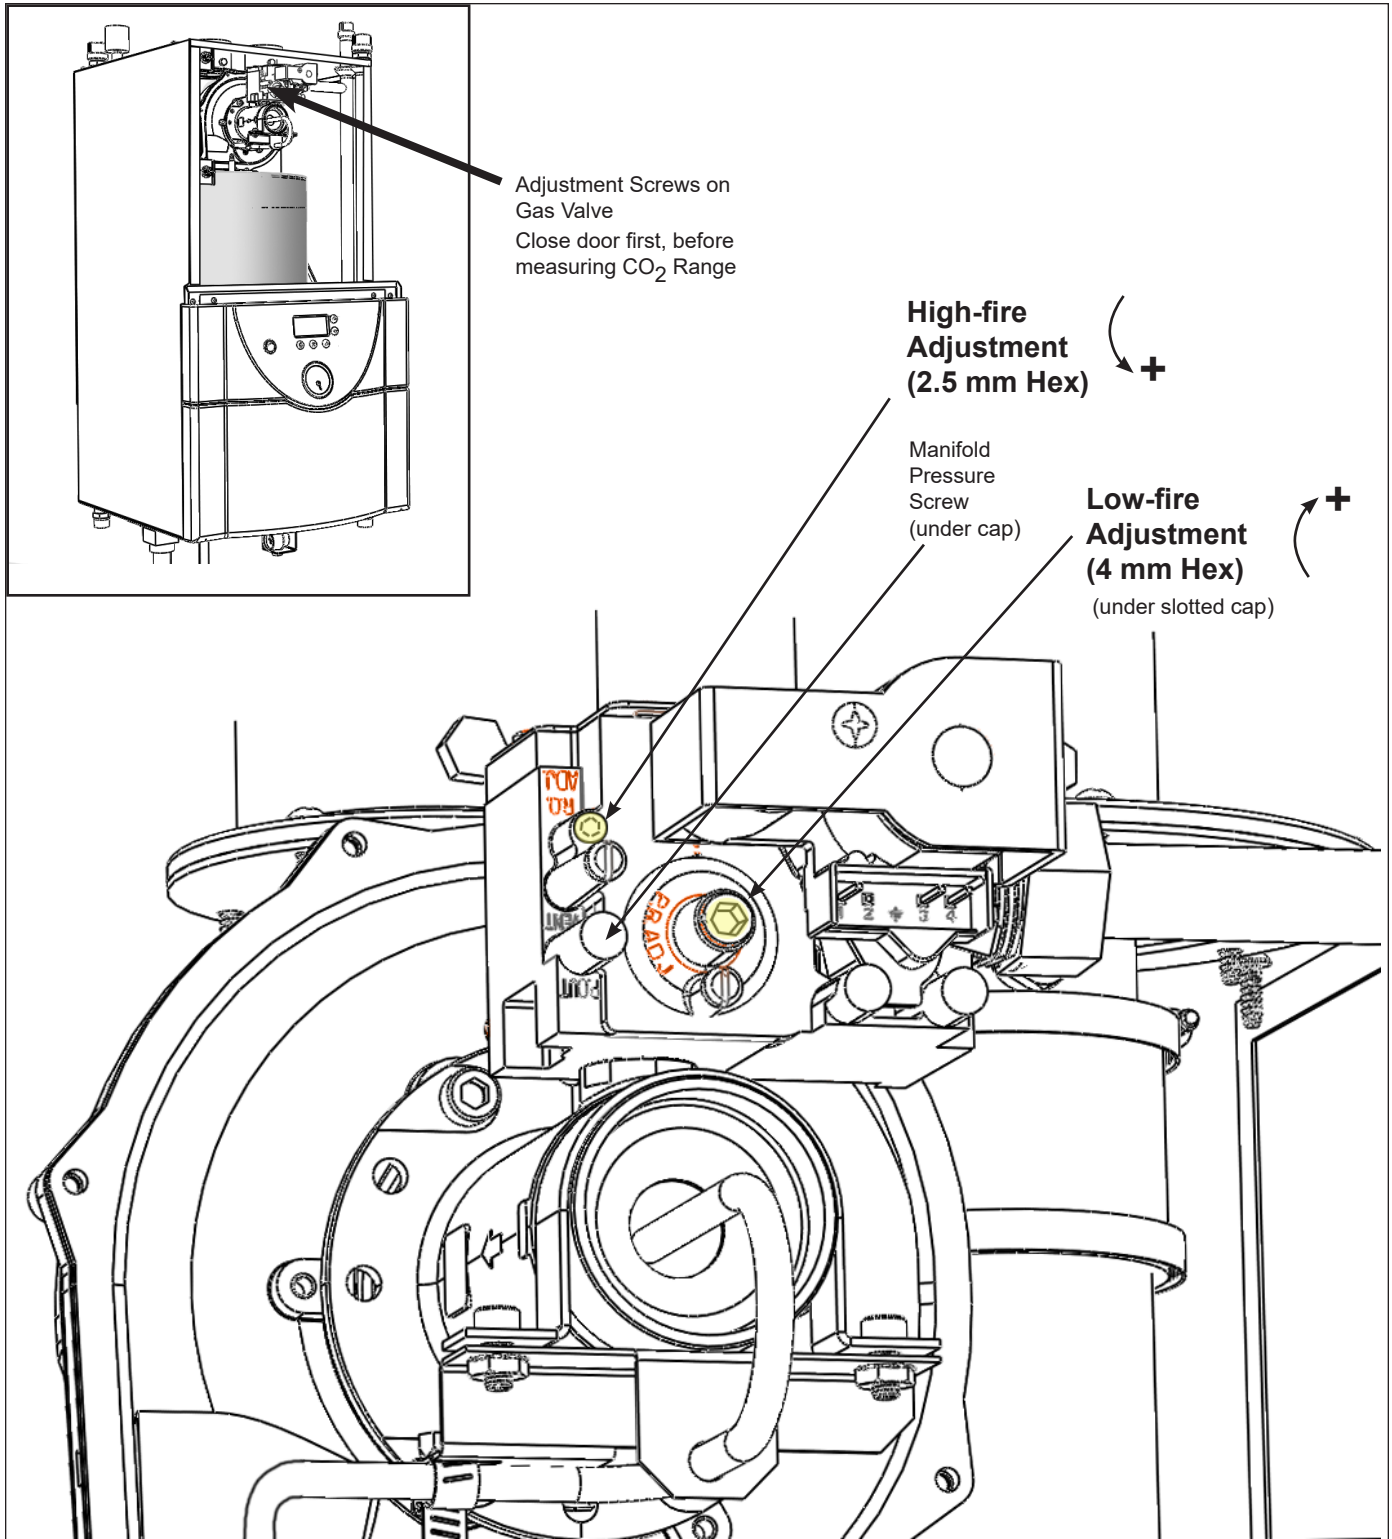

Figure 28. Adjustment Screws and Settings for CO₂
1. Measure the CO₂ in the flue products at high fire. The Brute LX can be forced to high fire to allow for easier setup. Refer to **Section 8** for instructions on how to access the forced rate menu. The CO₂ readings should be between the range shown in **Table 17**. If the CO₂ is not within the range shown, adjustments may be made. To adjust the high fire CO₂, locate the high fire adjuster screw (**Figure 28**). **Using a 2.5 mm Hex wrench, slowly make adjustments in 1/16 of a revolution increments until the CO₂ is within the range identified.**
2. Measure the CO₂ in the flue products at low fire. Brute LX can be forced to low fire to allow for easier setup. Refer to **Section 8** for instructions on how to access the forced rate menu. CO₂ readings should be between the range shown in **Table 17**. If the CO₂ is not within the range shown, adjustments may be made. To adjust the low fire CO₂, locate the low fire adjuster screw. **Using a 4 mm Hex wrench, slowly make adjustments in 1/16 of a revolution increments until the CO₂ is within the range identified.** (see **Figure 28**)
6. With a combustion analyzer, check CO₂ levels at both maximum and minimum input. Refer to sections **Figure 28** and **Table 17** of this manual for the proper adjusting procedures.